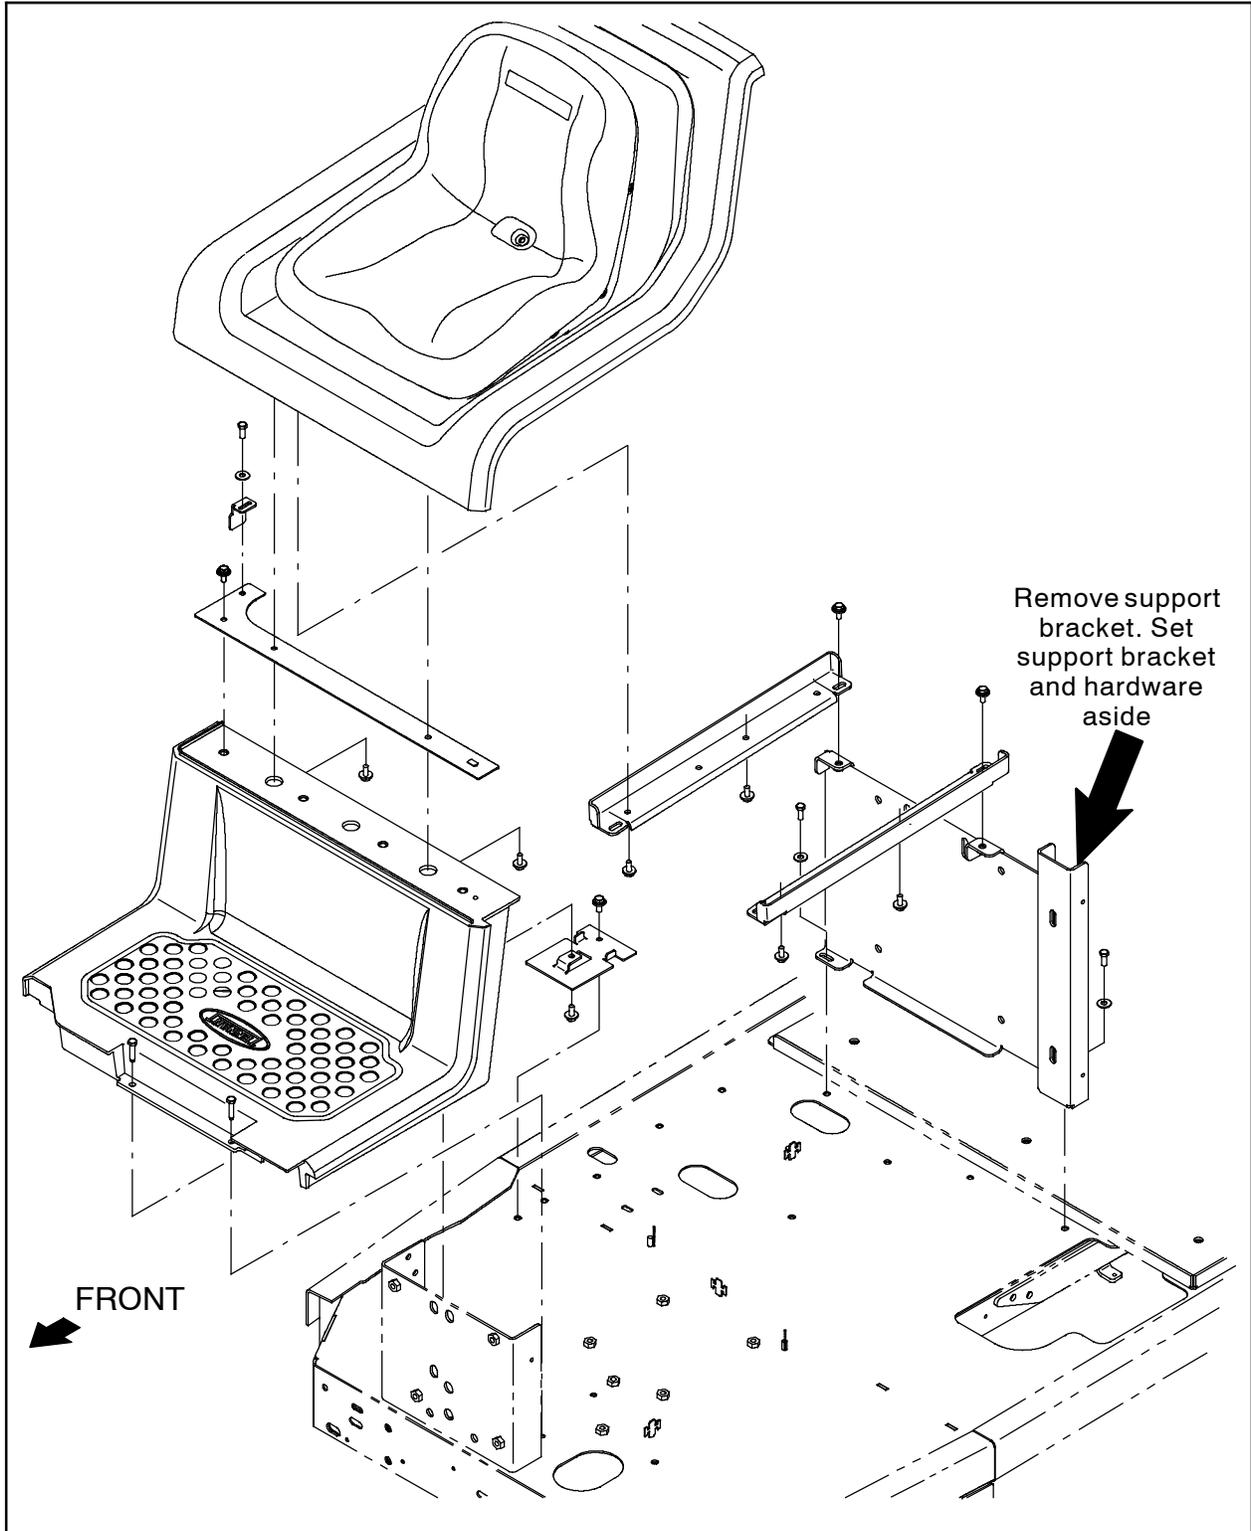

FIG. 2
3. Remove the support bracket located behind the operator station assembly from the machine. Set support bracket and all hardware aside. (Fig. 2)
- Reinstall the support bracket behind the operator station assembly. (Fig. 2)